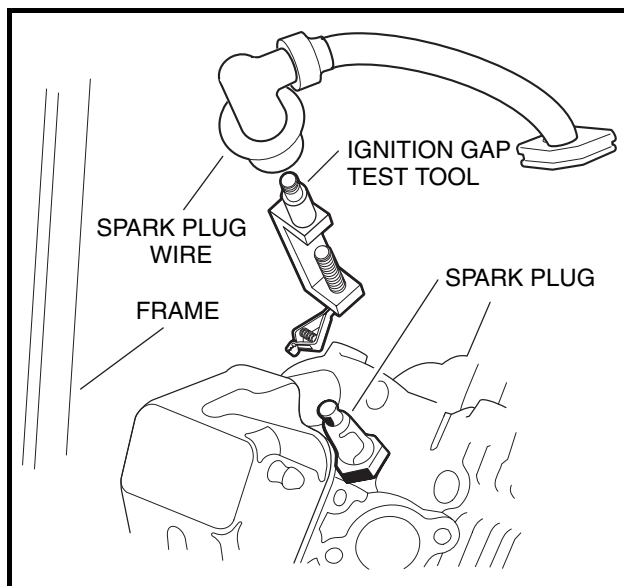

Figure 11-16 Ignition Spark Test
2. Remove the plug wire from the spark plug. Using an ignition spark gap test tool (Thexton 404® or equivalent), check for correct spark (**Figure 11-16, Page 11-20**).